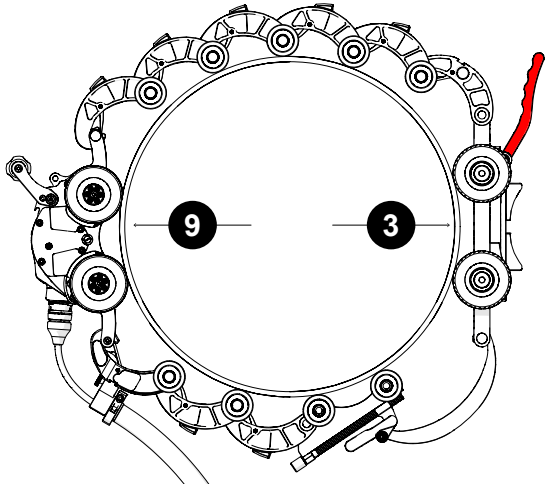

Fig. 76 - Position source cart at 3 or 9 o'clock with lever pointing up
13. Drive the system forward or in reverse to bring the source cart base to the three o'clock or 9 o'clock position (see "Jog Mode" on page 52). The red lever of the source cart base should ideally be angled upwards (Fig. 76).